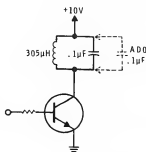

Figure 4-91
8. Turn off your ET-3100 Experimenter. Add a $0.1 \mu\text{F}$ capacitor in parallel with the tank circuit as shown in Figure 4-91. This increases the capacitance of the tank circuit to $0.2 \mu\text{F}$. An increase in capacitance causes the resonant frequency of the tank to _____.